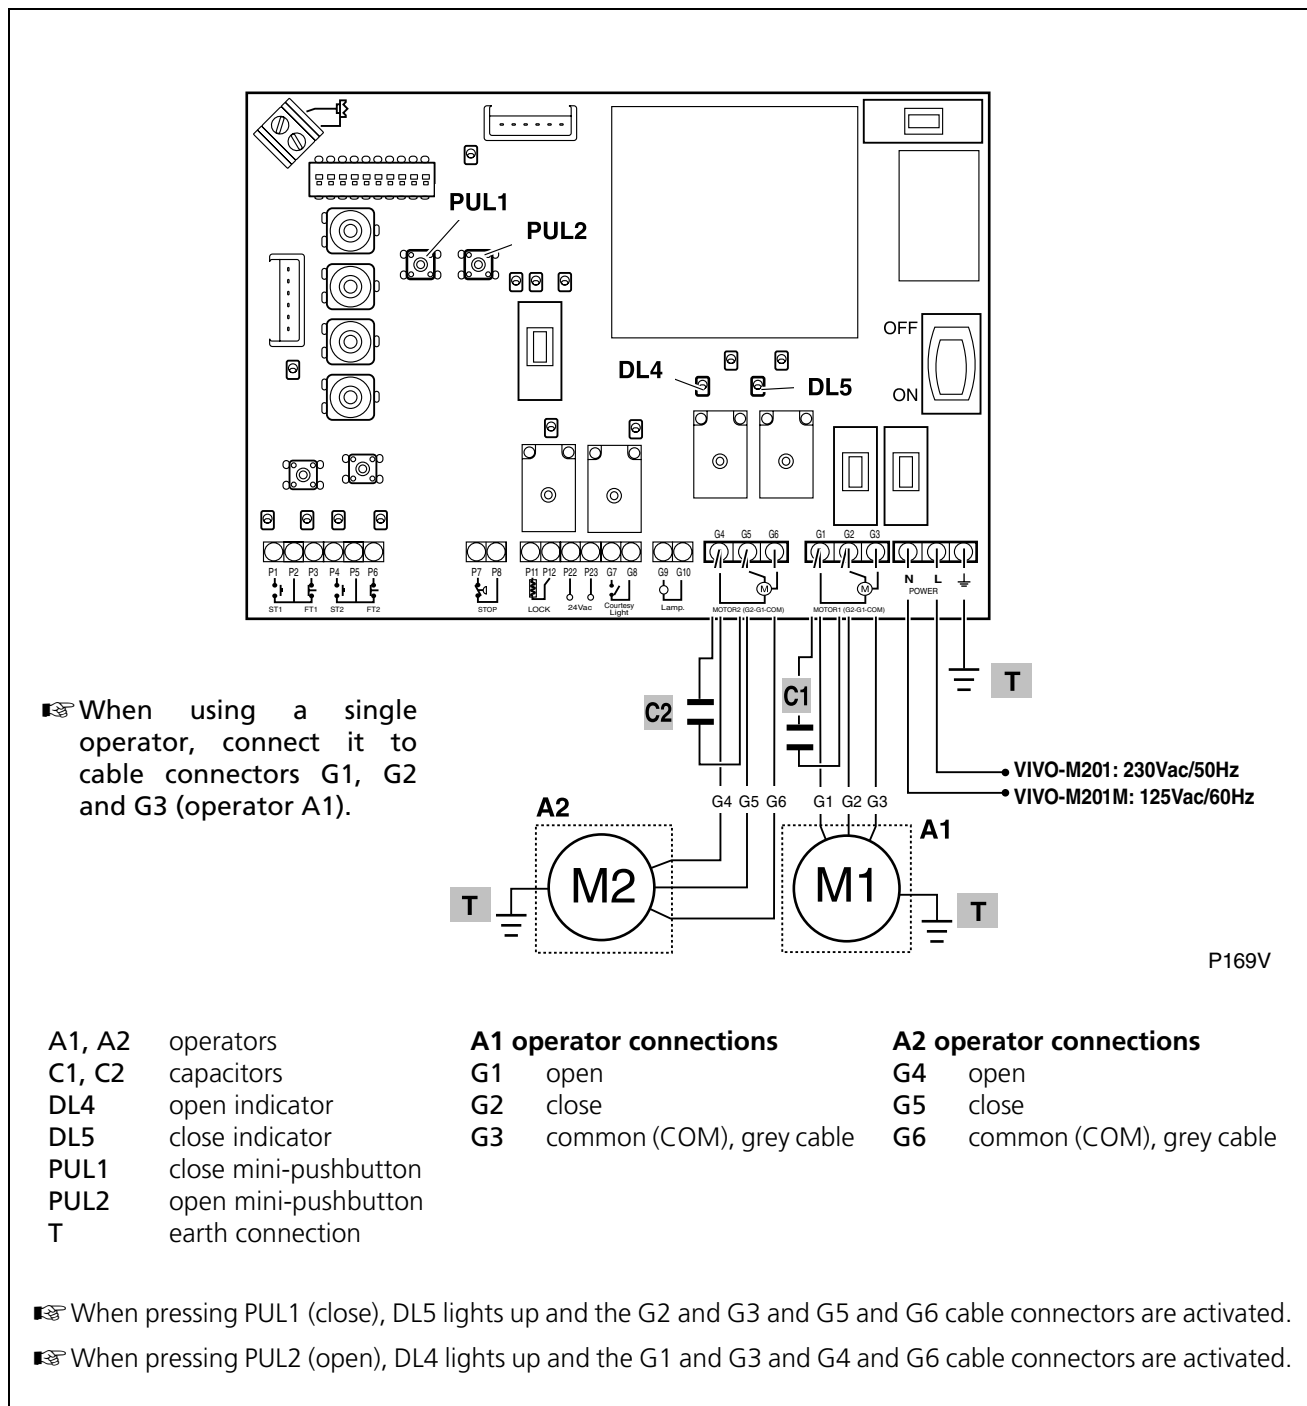

Fig. 3 Power supply and operator connections
- ☞ If the turning direction of any of the operators is not correct, interchange the connection cables (G1 and G2) of the operator (for further details, see "Fig. 3 Power supply and operator connections" on page 37).